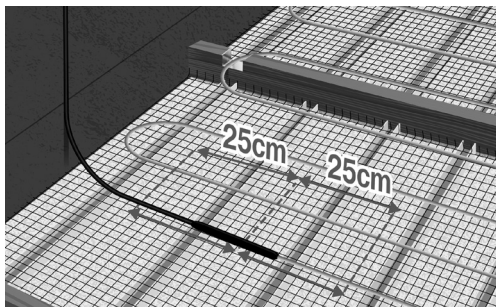

Fig. 16. Placer kablet lige på hver side af samlingen
6. The cables are fastened approx. 25 cm on either side of the connection between the cold cable and heating cable, measured from the centre of the joint. Be sure to start so that cold cable can reach the thermostat. (Fig. 16).